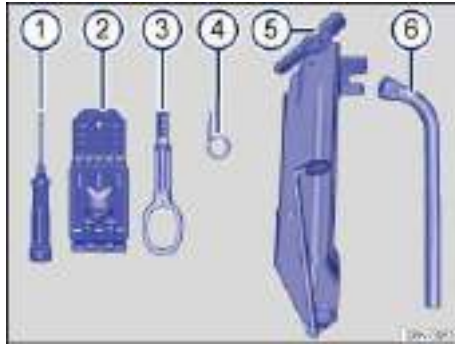

Fig. 186 Contents of the vehicle tool kit.
Contents of the vehicle tool kit ⇒ fig. 186
The folding chock is in the vehicle tool kit ⇒ fig. 186.
- To remove take the wire clip out of vehicle tool kit ⇒ fig. 186 (4) and hook it into the edge of the hubcap ⇒ fig. 188.